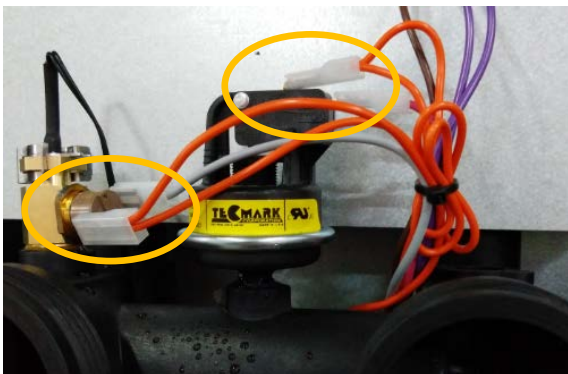

Figure 19
14. Disconnect the connectors from the 45°C over-temperature switch and the pressure switch. Refer Figure 19.